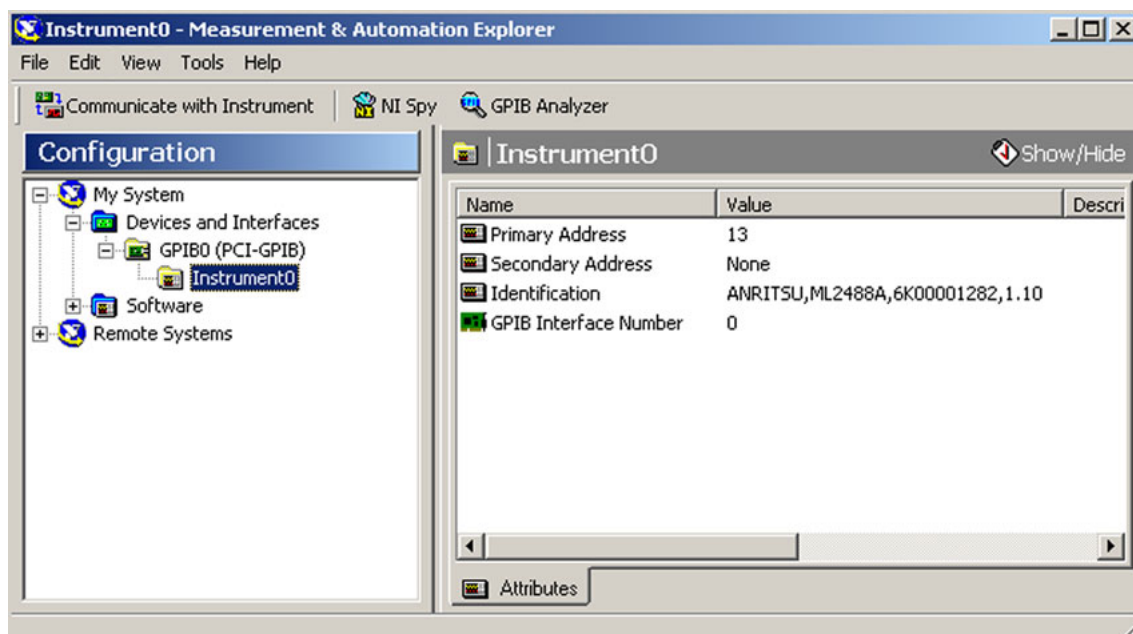

Figure 4-2. Measurement and Automation Explorer
5. Navigate to GPIBO (PCI-GPIB) and search for Instrument0 as shown in Figure 4-2.